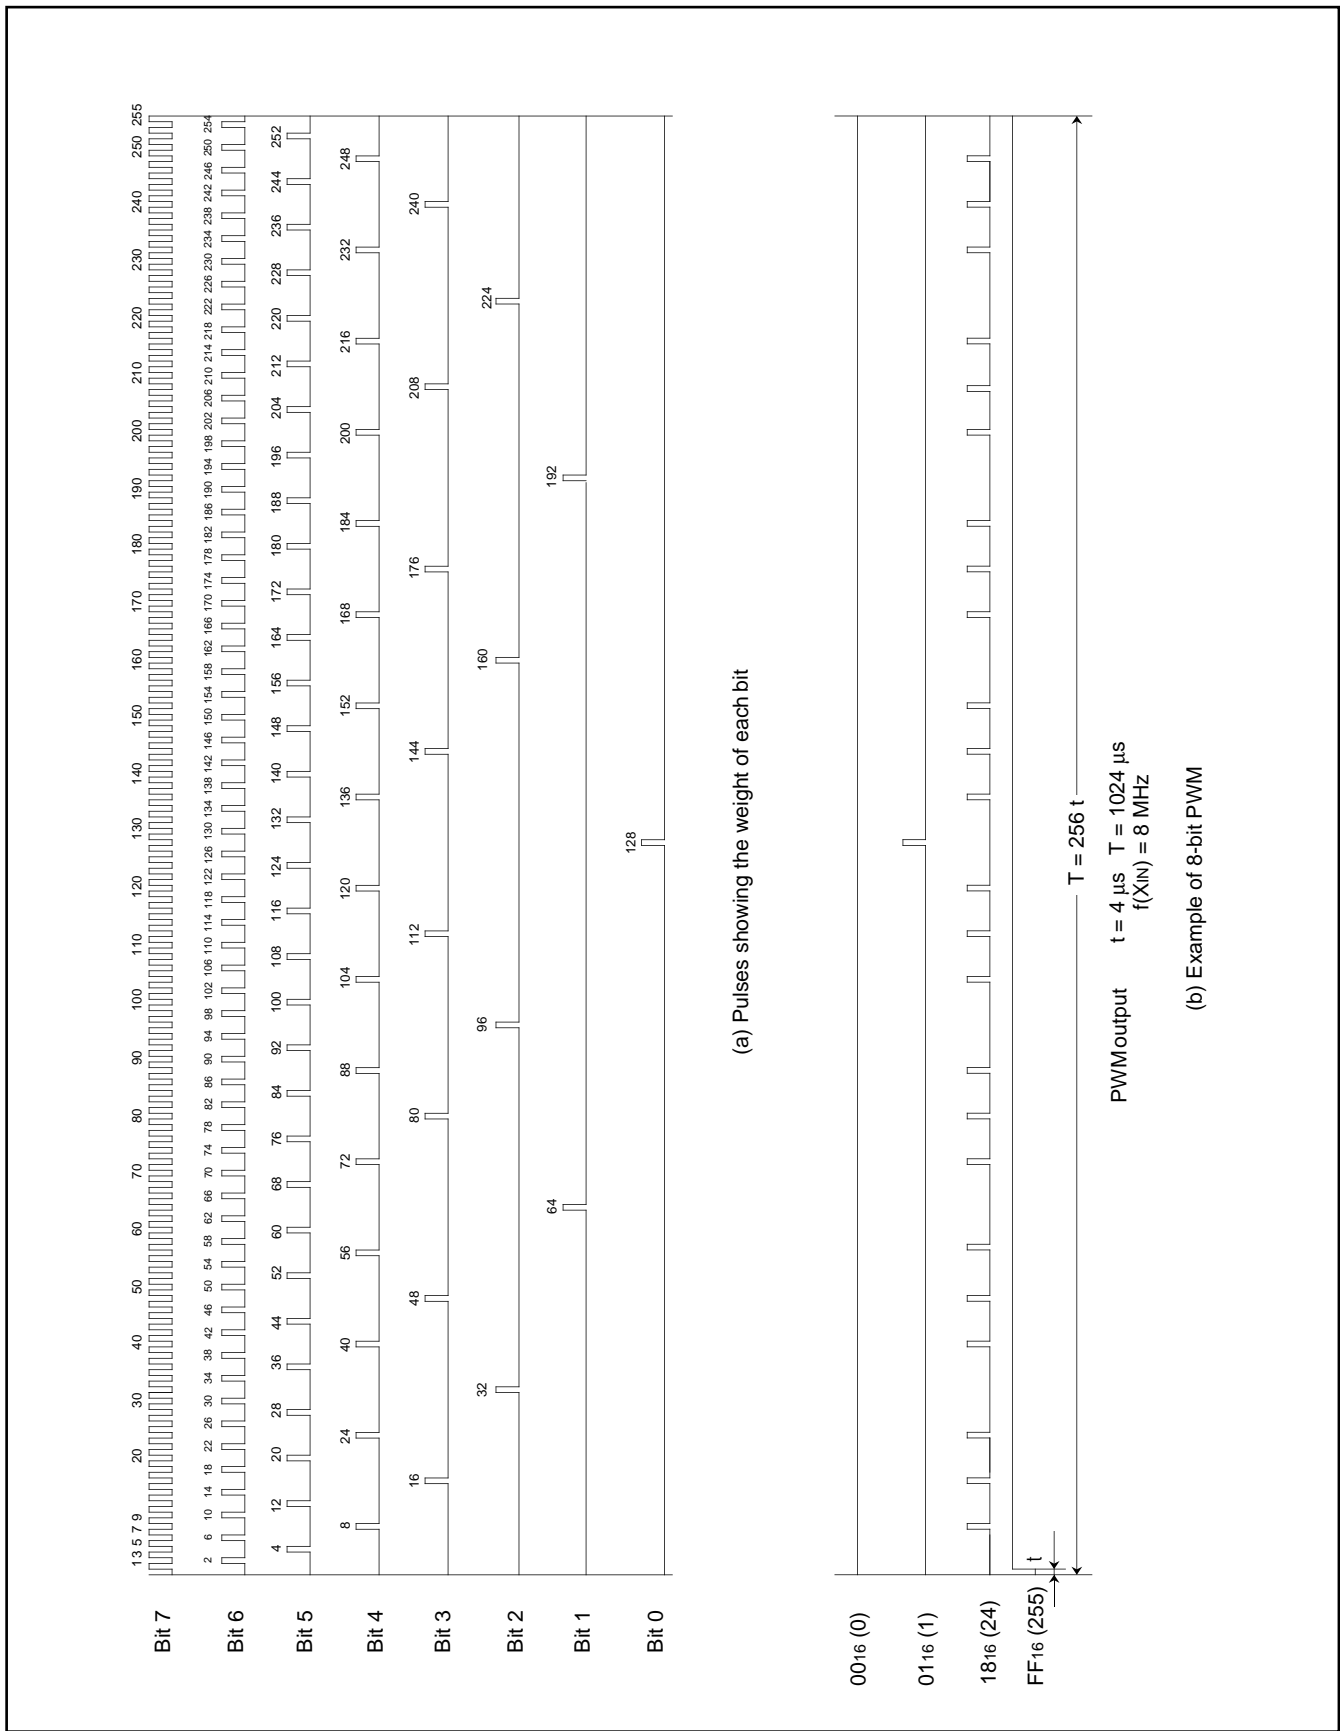

Fig. 13. 8-bit PWM timing
Figure 13 shows the 8-bit PWM timing. One cycle ( $T$ ) is composed of  $256 (2^8)$  segments. The 8 kinds of pulses relative to the weight of each bit (bits 0 to 7) are output inside the circuit during 1 cycle. Refer to Figure 13 (a). The 8-bit PWM outputs waveform which is the logical sum (OR) of pulses corresponding to the contents of bits 0 to 7 of the 8-bit PWM register. Several examples are shown in Figure 13 (b). 256 kinds of output ("H" level area:  $0/256$  to  $255/256$ ) are selected by changing the contents of the PWM register. A length of entirely "H" output cannot be output, i.e.  $256/256$ .